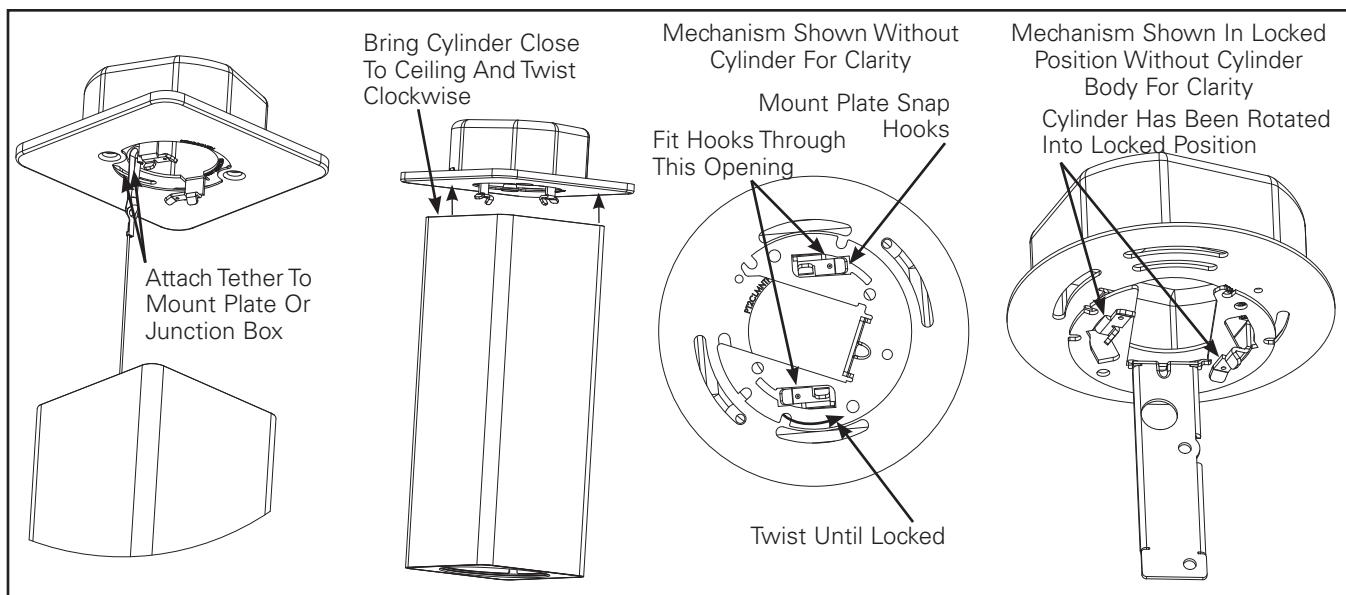

Figure 3.
5. Position cylinder underneath mount plate hooks/snaps. Lift into place and twist until locked (see figure 3).